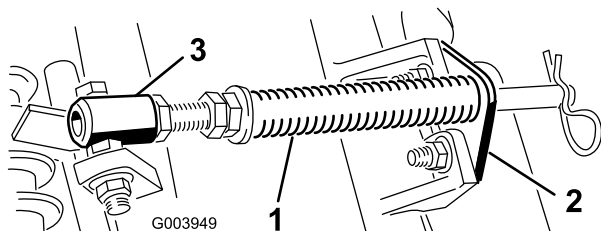

Figure 4
- A. Remove the 2 carriage bolts and nuts securing the rod bracket to the cutting-unit tabs (Figure 4).
- B. Remove the flange nut securing the spring tube bolt to the carrier-frame tab (Figure 4) Remove the assembly.